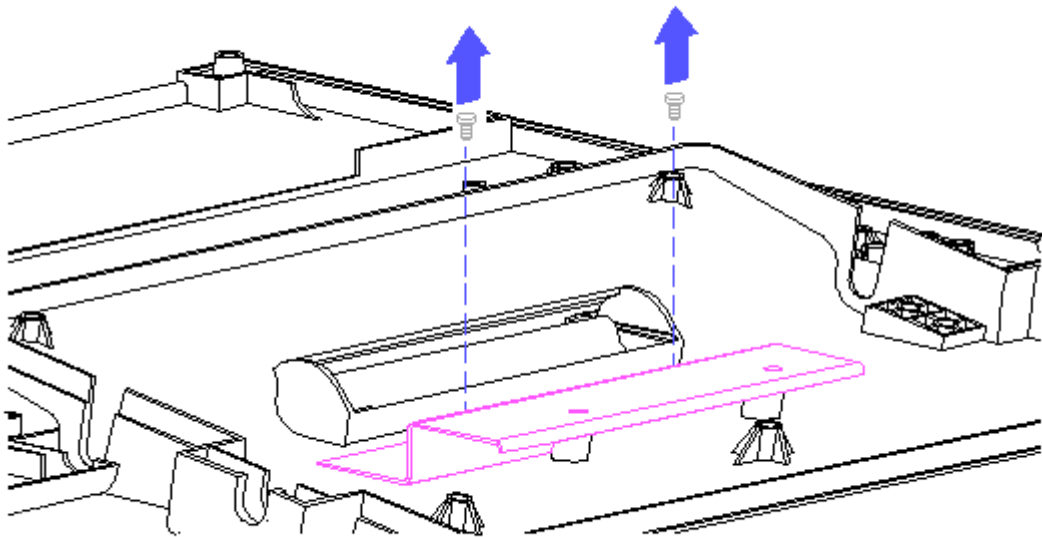

Figure 4-23. Removing the Shroud Mounting Screws
6. Remove the metal shroud mounting screws and remove the shroud (Figure 4-23).